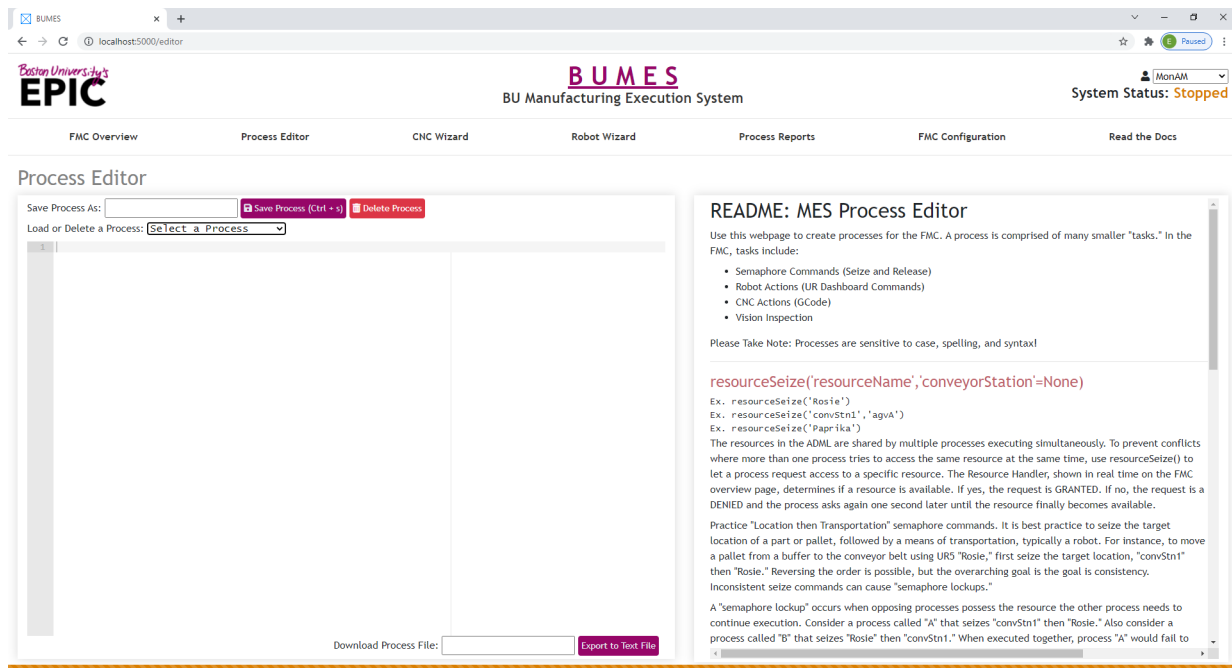

Figure 5: BUMES Process Editor
5. Select the program from the drop down menu, also shown in Figure 5.